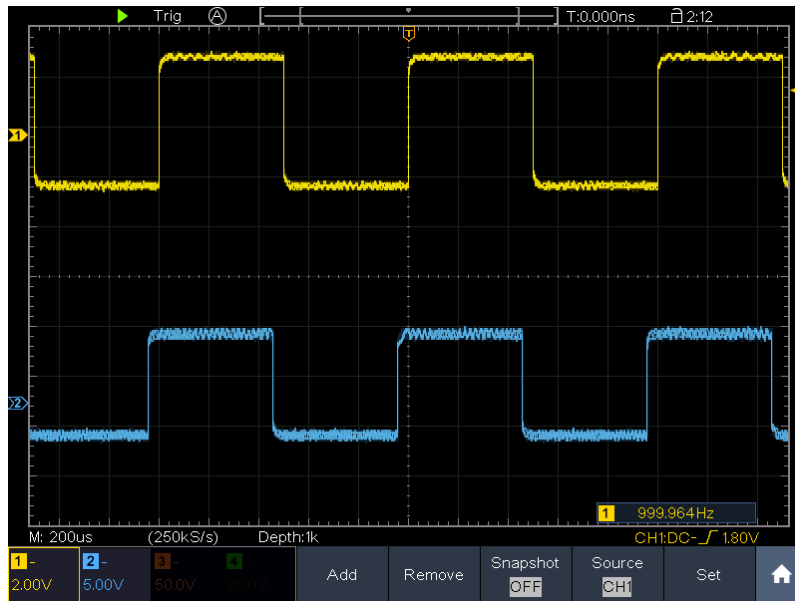

Figure 8-2 Waveform of Gain Measurement
- (1) Push the **Autoset** button and the oscilloscope will automatically adjust the waveforms of the two channels into the proper display state.
- (2) Push the **Measure** button to show the Measure menu.
- (3) Select **Add** in the bottom menu.
- (4) In the left Type menu, turn the **M** knob to select **PK-PK**.
- (5) In the right menu, select **CH1** in the **Source** menu item.
- (6) In the right menu, select **Add**. The peak-to-peak type of CH1 is added.
- (7) In the left Type menu, turn the **M** knob to select **PK-PK**.
- (8) In the right menu, select **CH2** in the **Source** menu item.
- (9) In the right menu, select **Add**. The peak-to-peak type of CH2 is added.
- (10) Read the peak-to-peak voltages of Channel 1 and Channel 2 from the bottom left of the screen (see *Figure 8-2*).
(11) Calculate the amplifier gain with the following formulas.